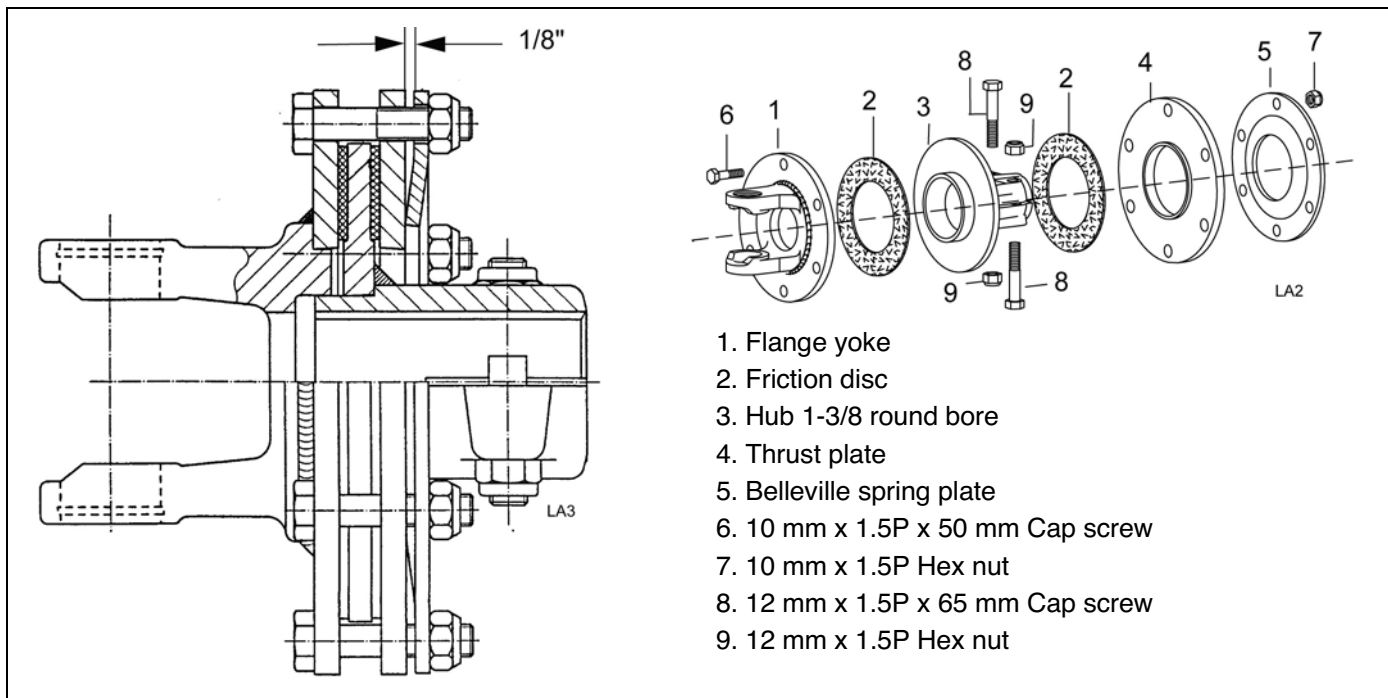

Figure 7. Slip Clutch Assembly
SLIP CLUTCH ADJUSTMENT (Figure 7)
3. Loosen six 10 mm cap screws (6) to remove all tension from Belleville spring plate (5).
4. Hold clutch hub (3) solid and turn shaft to make sure clutch slips.
5. If clutch does not slip freely, disassemble and clean the thrust plate faces (4), flange yoke (1), and clutch hub (3).
7. Tighten Belleville spring plate (5) until it is against the thrust plate (4) of the clutch, and then back off each of the six nuts by 2 full revolutions. The gap between Belleville spring plate and thrust plate should be 1/8" as shown in Figure 7.
8. If a clutch continues to slip when the spring is compressed to 1/8" gap, check friction discs (2) for excessive wear. Discs are 1/8" when new. Replace discs after 1/16" wear. Minimum disc thickness is 1/16".